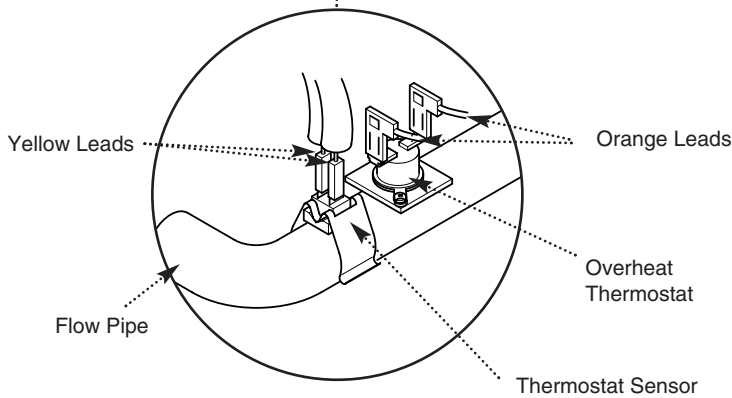

Fig. 85
3. The top flow connection incorporates the boiler thermostat and overheat thermostat (Fig. 85).